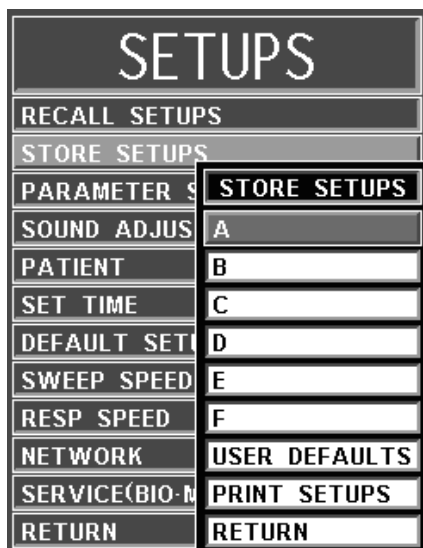

Figure 3-3. The STORE SETUPS Menu
- (2) **Store Setups.** To select this menu option, turn the Rotary Knob until the **STORE SETUPS** option is highlighted, then press the Rotary Knob to select. Selecting this menu option will bring up the **STORE SETUPS** Menu and allow the operator to Store up to seven (7) sets of Monitor Setups for future Recall (See Figure 3-3). *This menu has a time-out feature. If no action is taken for approximately 60 seconds, the monitor will automatically return to the Normal Screen*